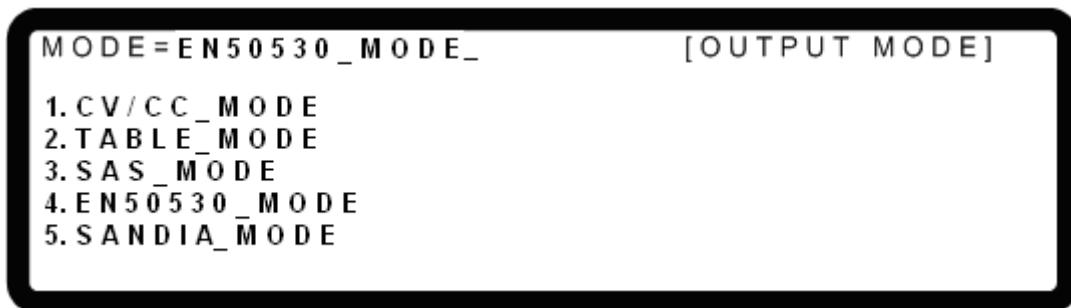

Figure 3-165
1. Use the numeric keys [0] - [4] or the rotary knob (◎) to select EN50530_MODE as shown in Figure 3-165.